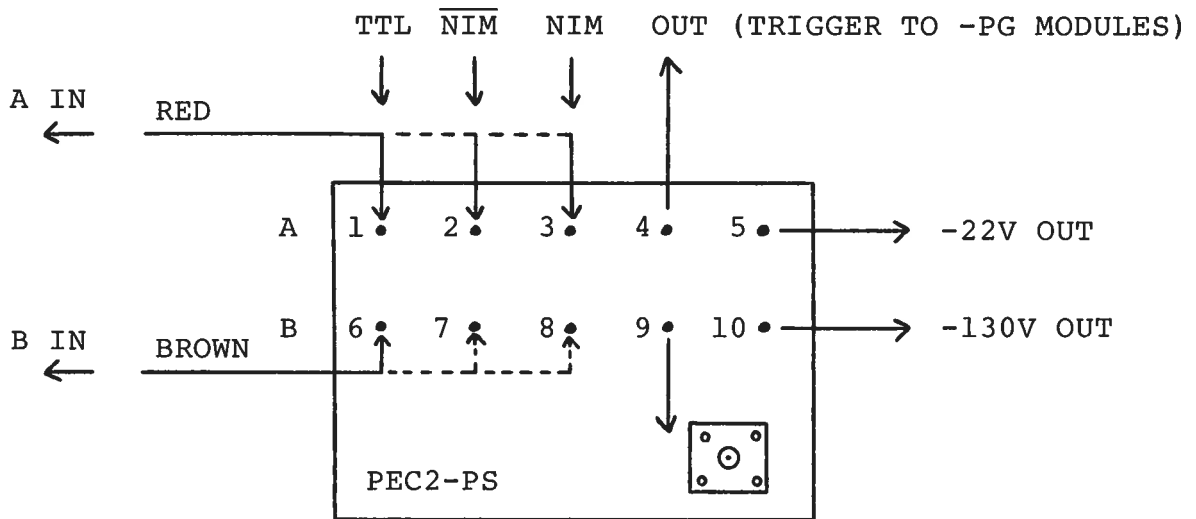
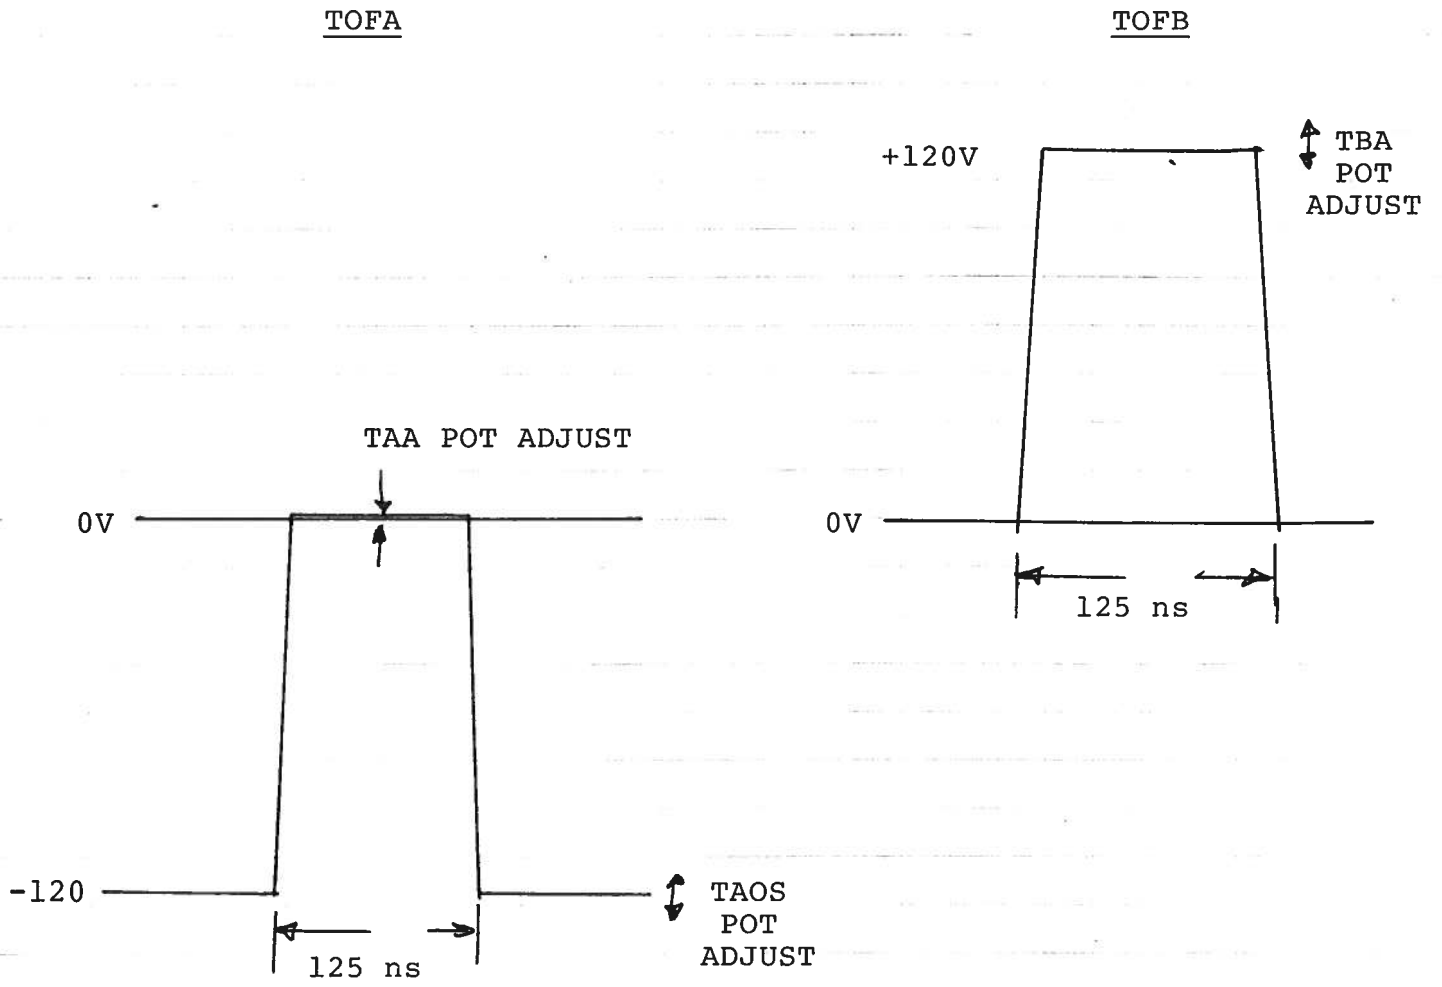
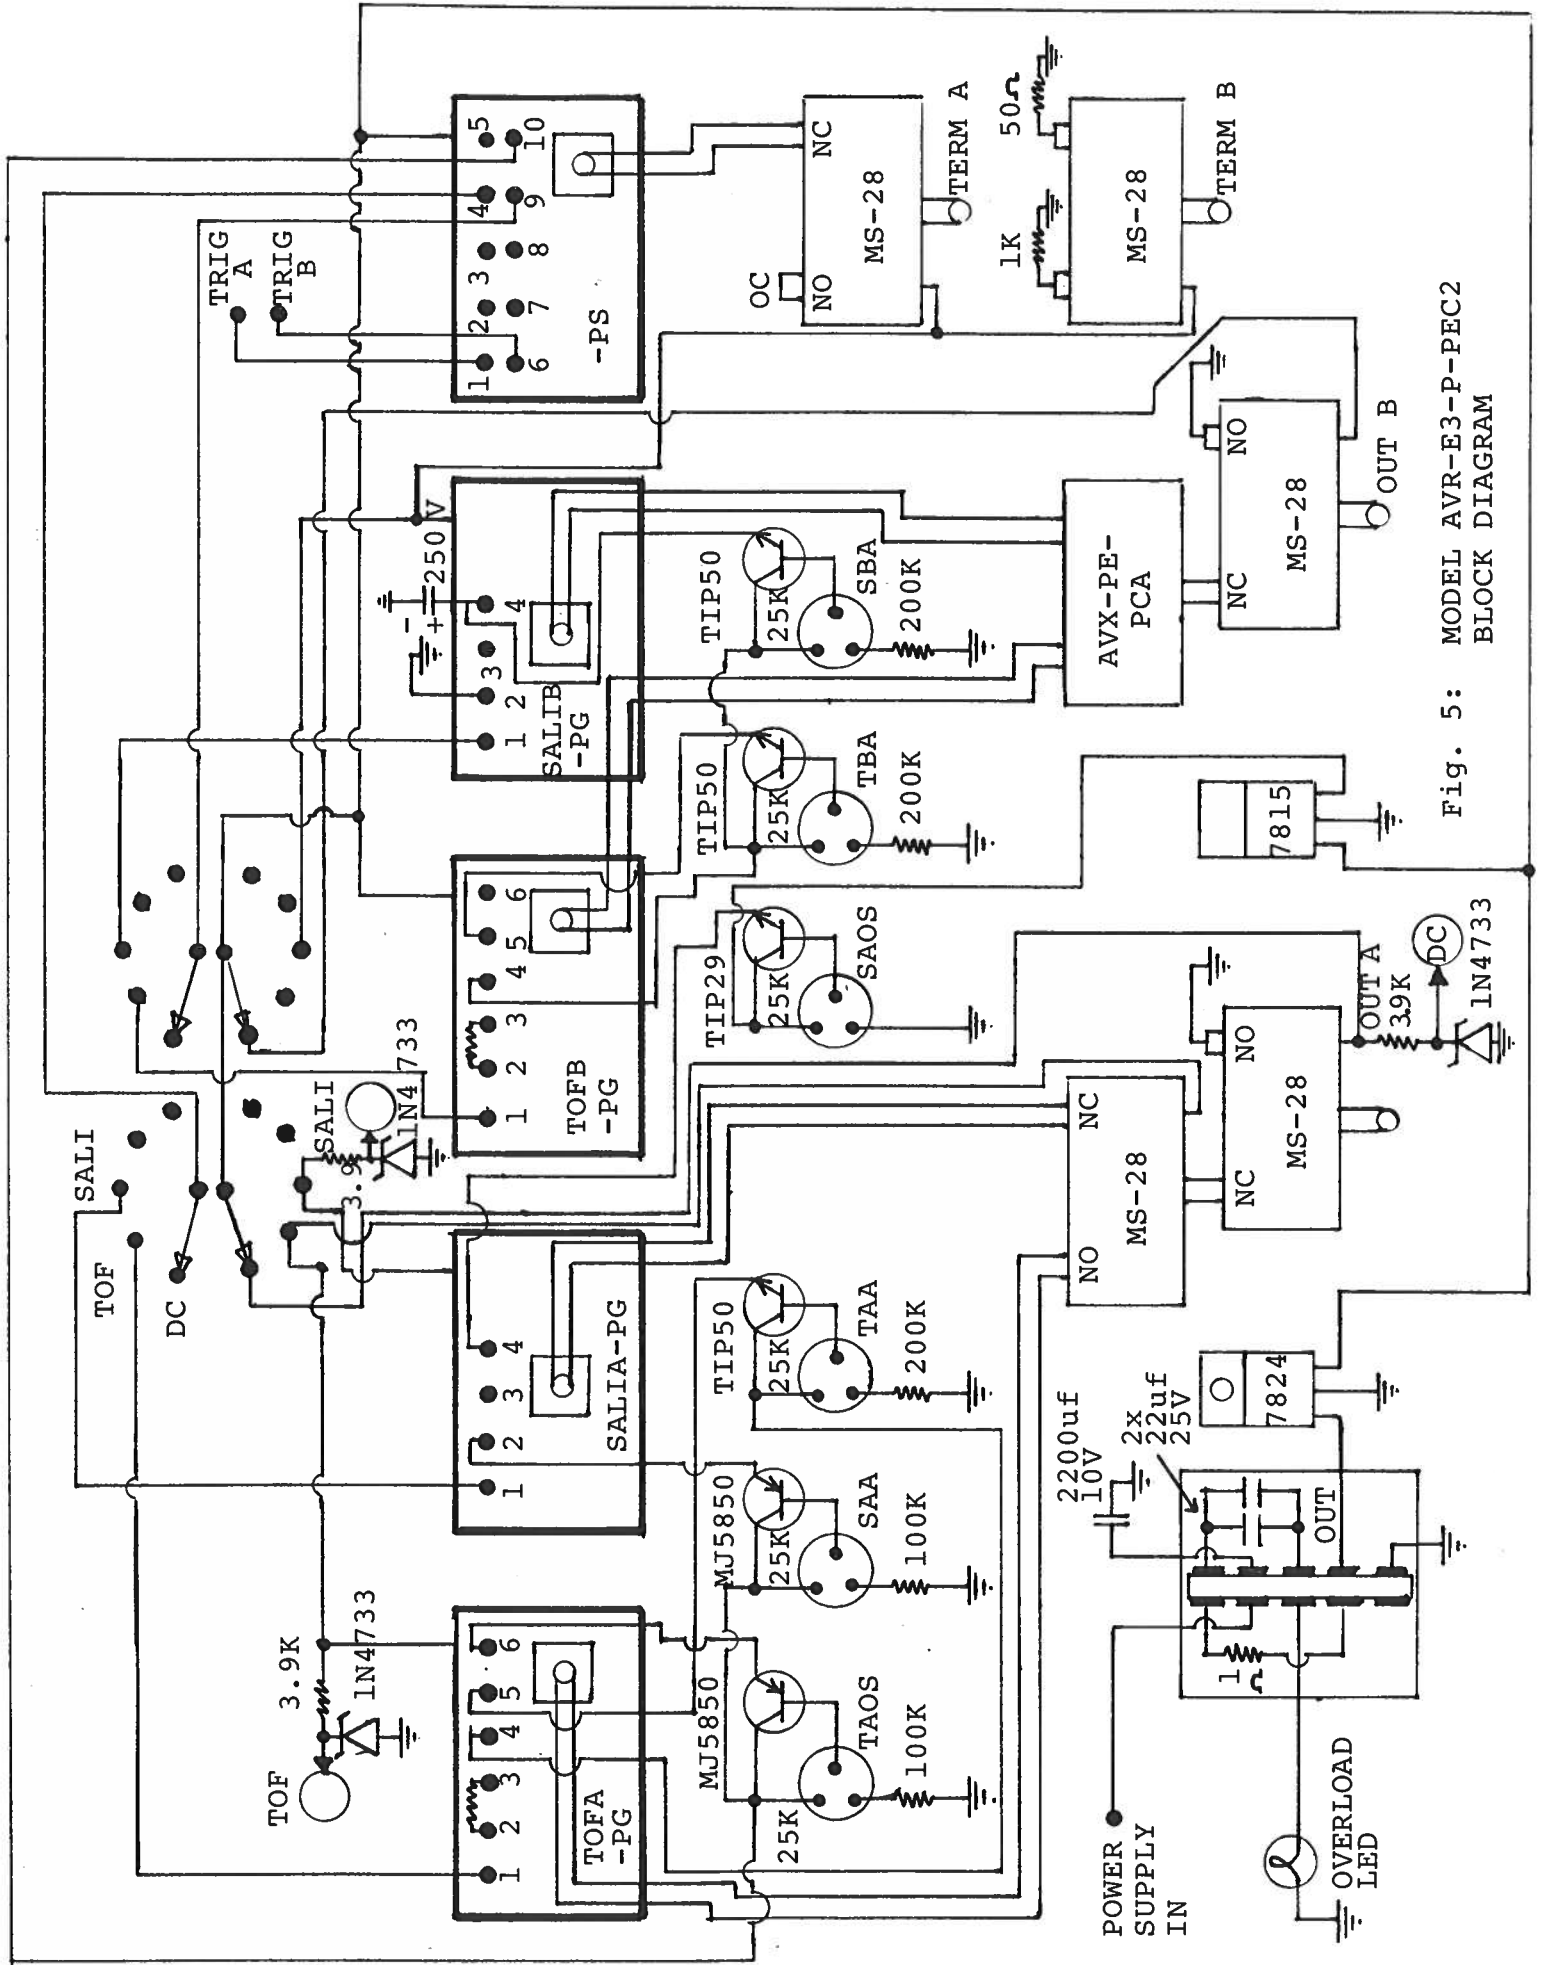
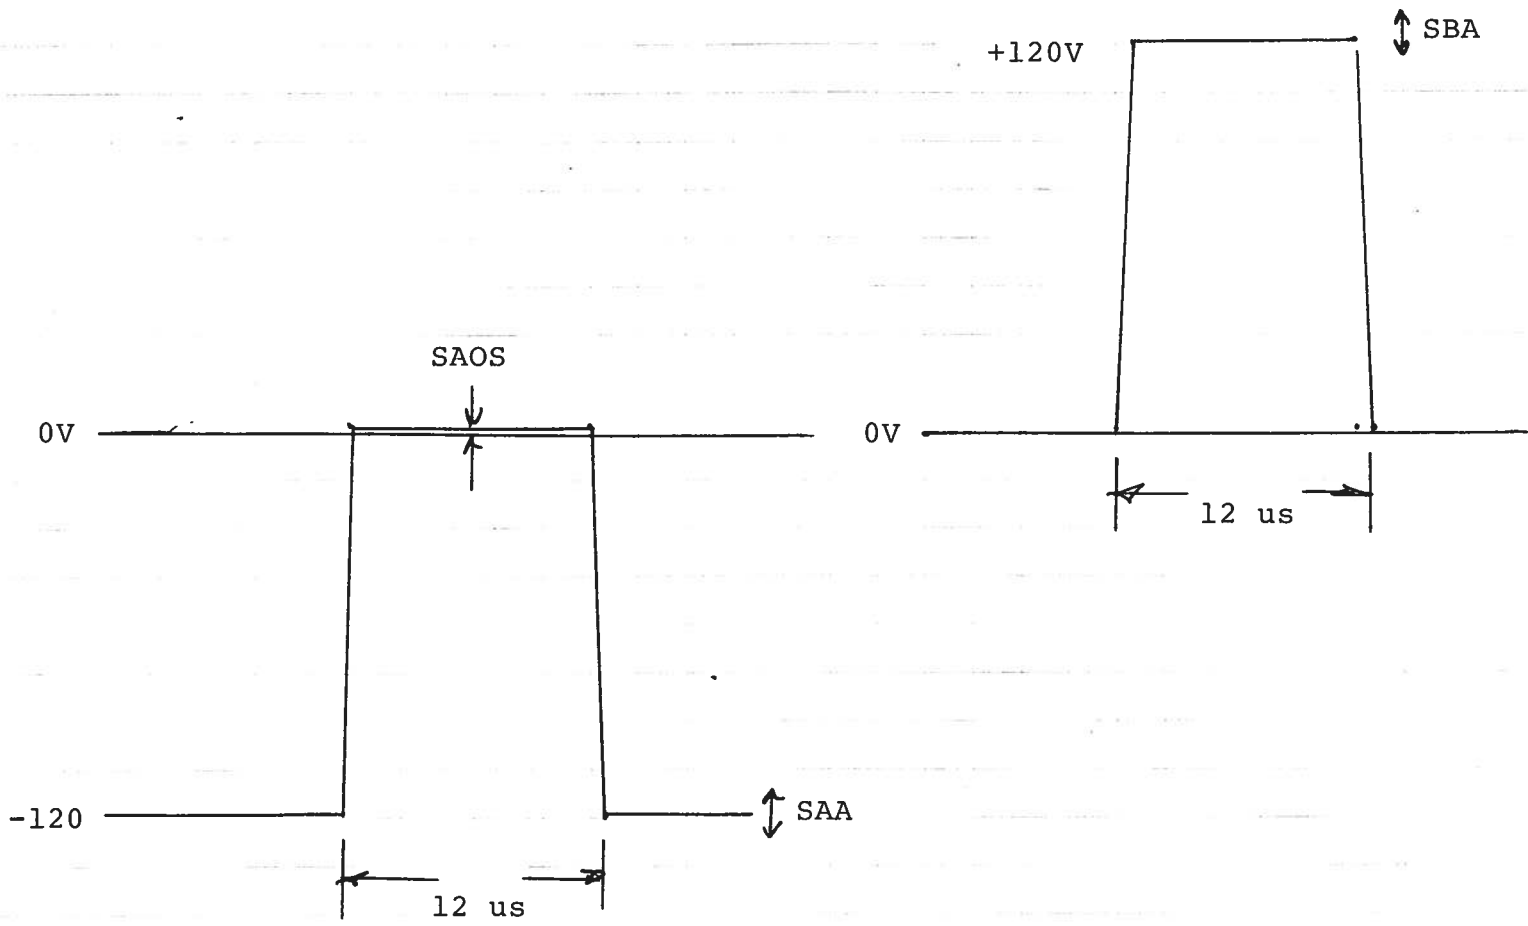

Fig. 3: PEC2-PS MODULE CONNECTIONS FOR TTL, $\overline{\text{NIM}}$ AND NIM TRIGGERING
Fig. 4
Fig. 5: MODEL AVR-E3-P-PEC2
Fig. 6
- 1) The arrangement shown in Fig. 1 may be used to check the basic waveforms using an oscilloscope. Note that at the time of shipping, the unit is wired to trigger from TTL input pulses (50 Ohm input impedance). To trigger from NIM or $\overline{\text{NIM}}$ inputs it is necessary to change the solder connections to the -PS module as shown in Fig. 3 (see Fig. 5 also).
- 4) With the front panel selector switch in the TOF position the OUT SMA connectors provide the waveforms shown in Fig. 4. The one turn TAA, TAOS and TBA locking pots (see Fig. 5) are accessible in the interior of the instrument to provide the amplitude adjustments shown in Fig. 4. CAUTION: Potentials as high as 140 Volts DC are employed and exposed in the interior of the instrument (see Fig. 5). The rear panel TOF banana connector is at a potential of +5 Volts (to $R_L > 1K$) when the instrument is operating in the TOF mode.
- 5) With the front panel selector switch in the SALI position, the OUT SMA connectors provide the waveforms shown in Fig. 6.
As with the TOF mode, the one turn SAA, SAOS or SBA locking pots (see Fig. 5) are provided in the interior of the instrument to achieve the amplitude adjustments shown in Fig. 6. The rear panel SALI banana connector provides +5 Volts (to $R_L > 1K$) when the instrument is operating in the SALI mode.
- (1) ON-OFF Switch. Applies prime power to all stages.
- (2) MODE Switch. 3 position switch controls nature of output signal at rear panel SMA OUT connector. In the DC position, the center conductor of the rear panel SMA OUT connector is fixed at ground potential by an internally controlled coaxial shorting switch. In the TDF position the OUT SMA connectors provide 125 ns wide 120 Volt pulses of the type shown in Fig. 4. When in the SALI position the rear panel outputs provide the 12 us wide 120 Volt outputs shown in Fig. 6.
- (3) OVERLOAD INDICATOR. AVR units with a serial number higher than 5600 are protected by an automatic overload protective circuit which controls the front panel overload light. If the unit is overloaded (by operating at an exceedingly high duty cycle or by operating into a short circuit), the protective circuit will turn the output of the instrument OFF and turn the indicator light ON. The light will stay ON (i.e. output OFF) for about 5 seconds after which the instrument will attempt to turn ON (i.e. light OFF) for about 1 second. If the overload condition persists, the instrument will turn OFF again (i.e. light ON) for another 5 seconds. If the overload condition has been removed, the instrument will turn on and resume normal operation. Overload conditions may be removed by:
- (1) FUSED CONNECTOR, VOLTAGE SELECTOR. The detachable power cord is connected at this point. In addition, the removable cord is adjusted to select the desired input operating voltage. The unit also contains the main power fuse (0.5 A SB).
- (2) 1.0A SB. Fuse which protects the output stage if the output duty cycle rating is exceeded.
- (3) PHILLIPS SCREWS. Remove 4 rear panel PHILLIPS screws to allow the removal of the top cover (slides back).
- (4) STATUS INDICATOR. Banana connectors provide +5 Volts (to $R_L > 1K$) depending on front panel MODE switch position.
- (5) TRIG. SMA connector to which 50 ns (or wider) TTL (or NIM or NIM) pulse is applied. See paragraph 1, SECTION A. Input impedance is 50 Ohms.
- (6) OUT. SMA output connectors provide waveforms shown in Figs. 4 and 6, SECTION A.